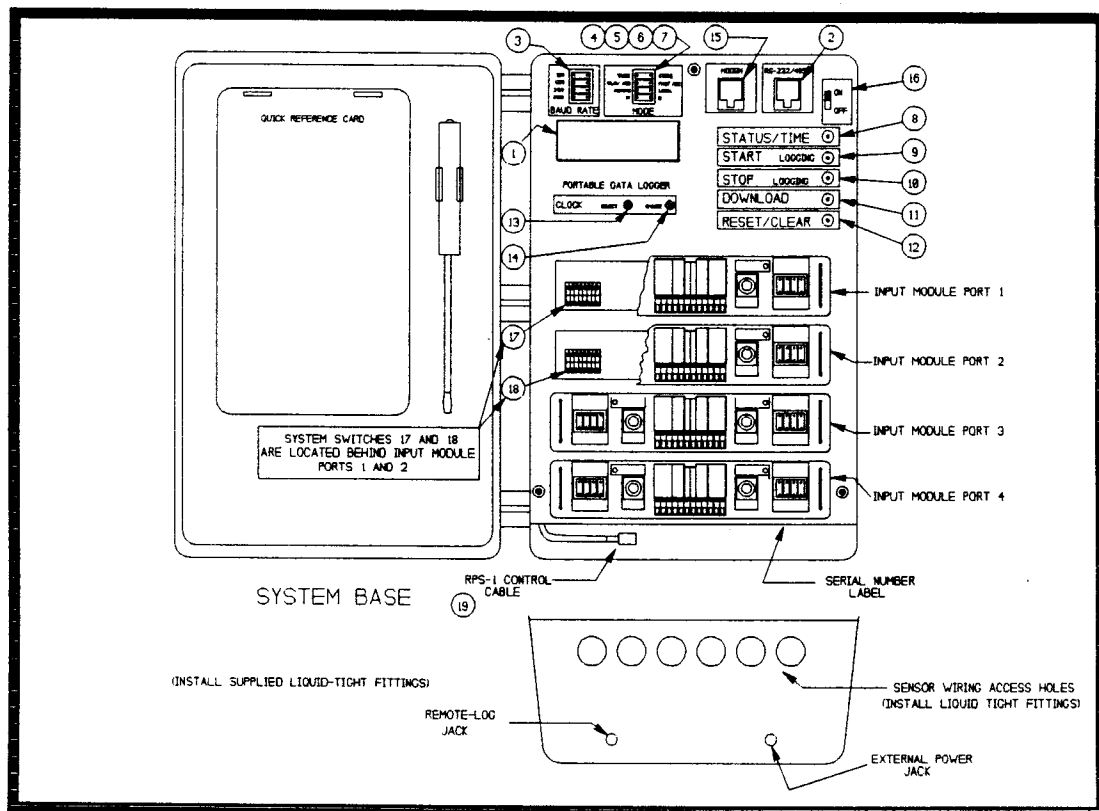

FIGURE 3.1: OM-220 SYSTEM BASE
A variety of Input Modules (I/M) to interface to different sensors and signals are available for use with the OM-220 System Base. The System Base has four 'mini-rack mount' I/M ports (FIG 3.1) for the plug-in modules. Each I/M has two or four channel capability, resulting in OM-220 configurations that can range from one channel to sixteen channels of sensor/signal interface.
Throughout this section, number references refer to the 'balloon' number arrows in FIGURE 3.1 of the System Base.
3.2 OM-220 SYSTEM BASE (FIGURE 3.1)